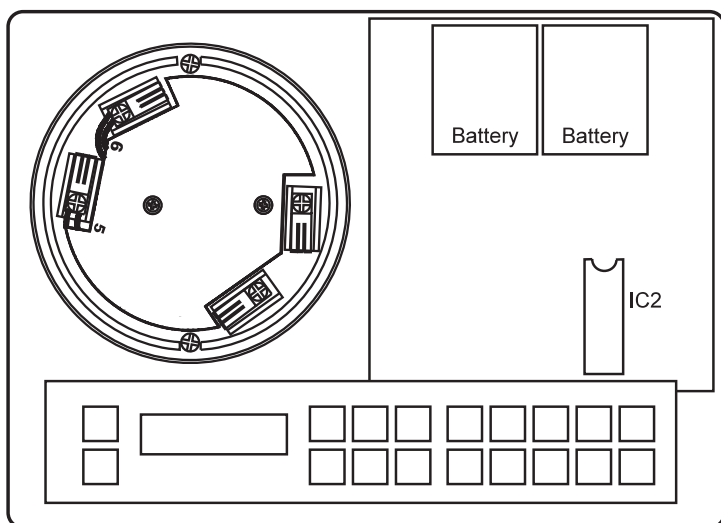

Figure 2
- a. Remove IC2 from its socket. Do this by lifting one end of the IC slightly, then the other end. Continue this process until the IC comes free. Use a short, thin blade screwdriver for best results. Refer to Figure 2 for the location of IC2.
- c. Insert the FPI-32 Rev. 3.2 IC into the socket for IC2. Locate the notch in the end of the IC to face the batteries as indicated by the silkscreen outline on the PC board (See Figure 2). Be sure that all pins go into the proper socket holes. Press down firmly to seat the IC properly.